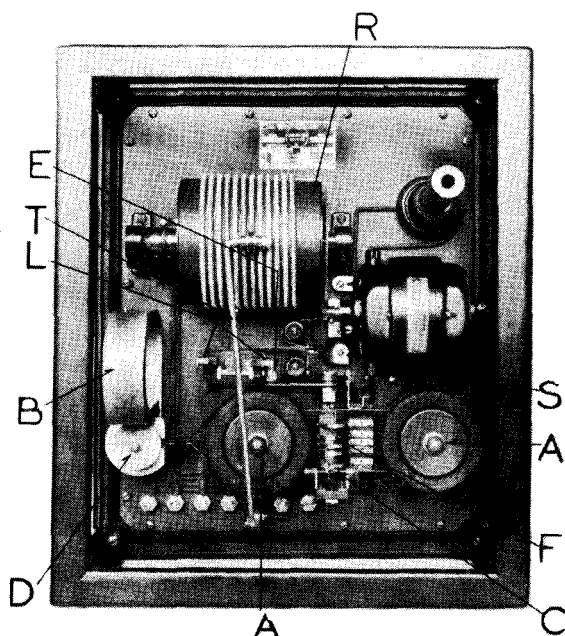
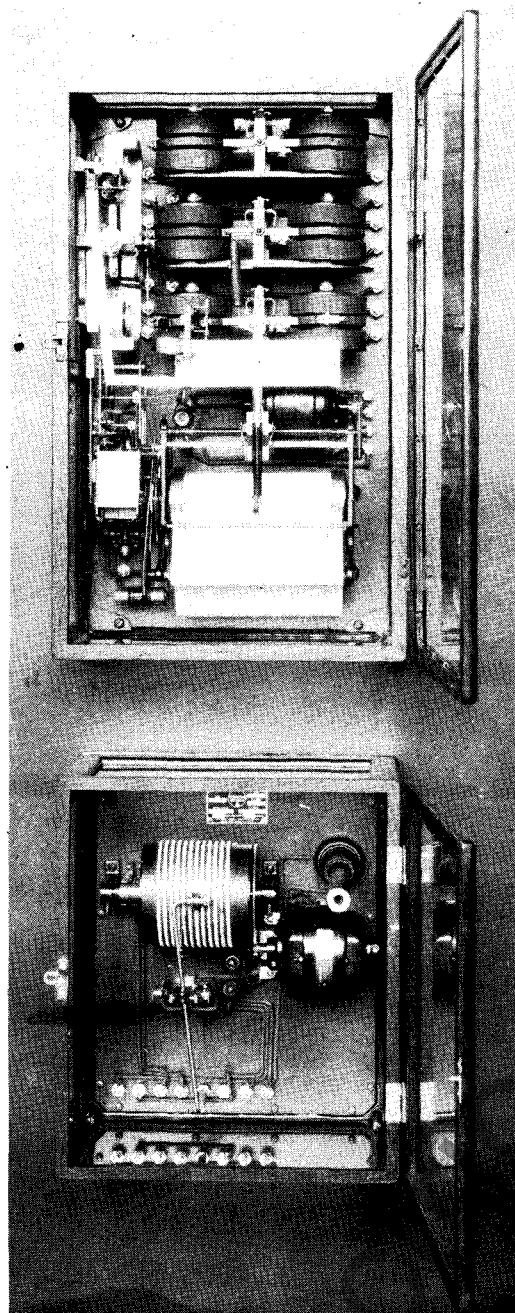

Figure 2
Figure 3
**The Transmitter**--The essentials of the current-balance type of transmitter are embodied in the transmitting meter as shown in Fig. 2. The coils A-A constitute a Kelvin balance type element which develops torque on the meter element proportional to the a-c. quantity. B is a permanent magnet, and with its associated coils forms a direct-current element for measuring the transmitted telemeter line current. Its torque is proportional to the current transmitted and balances the torque of the a-c meter element A-A. This is the normal condition of the measuring element. If either part of the element has a higher torque than the other, the measuring element turns and closes one or the other of the contacts C, which causes the motor M to adjust the rheostat R, so that the current in element B is corrected to balance the torque of the element A-A. The direct-current transmitted is proportional to the a-c or d-c quantity metered. A direct-current receiving meter may have its dial graduated accordingly and may be placed in the circuit wherever convenient.
The direct-current transmitters are similar to the alternating-current types shown in Fig. 2 except that the measuring element consists of two elements of the same type as the balancing element mounted at the opposite ends of a balance arm.
Totalizing wattmeters are equipped with the device shown in Fig. 3. The motor-operated rheostat is the same as that in the single transmitter Fig. 2 and is operated by contacts on the transmitting element mounted vertically alongside the lower three elements of the totalizing meter. The two forces acting on this element are the mechanical force of a spring which is connected to the recording mechanism of the meter and the torque of the balance coils which depends on the transmitted current. The tension of the spring is proportional to the load shown on the chart, which results in the current transmitted being proportional to the load. The connections between the two parts of the transmitter are only the connecting wires. What is actually transmitted is the position of the pen on the chart.